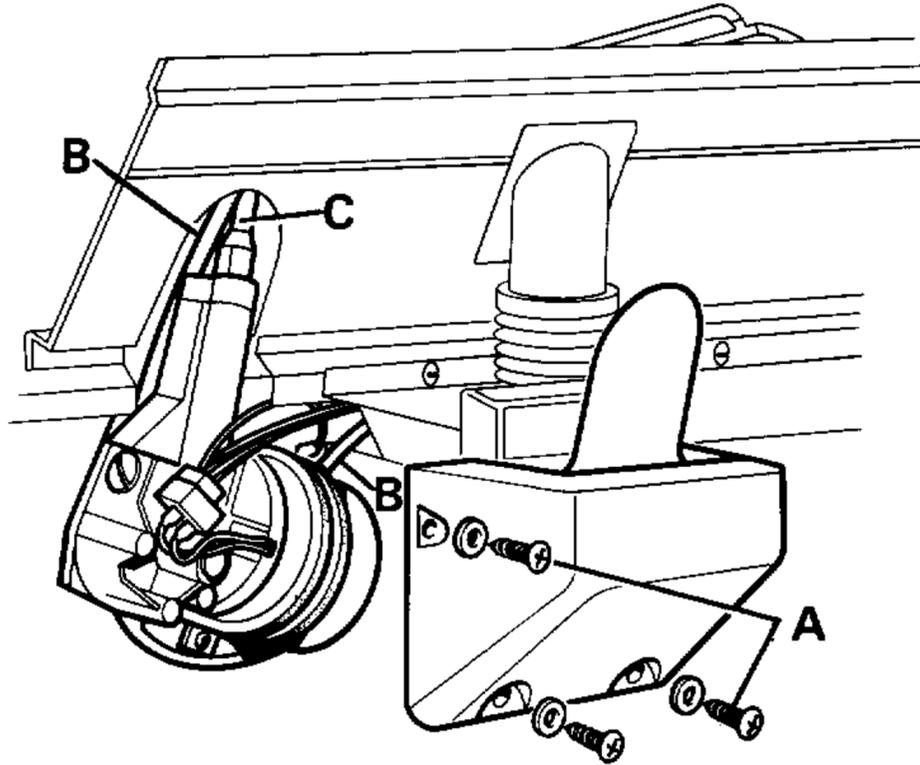

FIG.4.
24. Remove the end cover from the left-hand lower facia to expose the wiper motor installation. (Fig.4.)